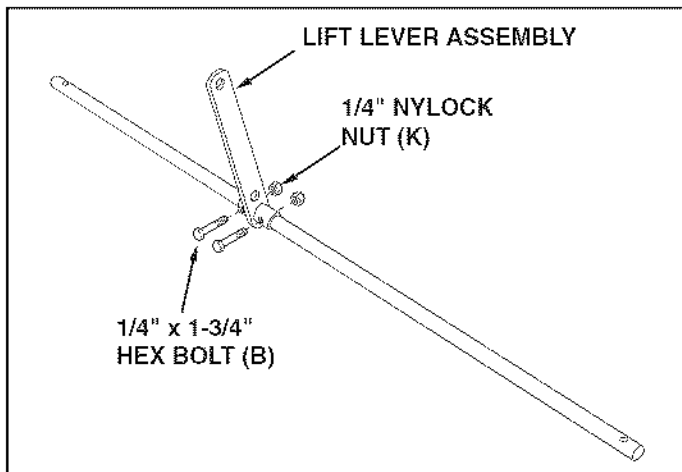

FIGURE 1
- (2) 3/4" wrenches or adjustable wrenches
- Attach the lift lever assembly to the two holes in the middle of the shaft using two 1/4" x 1-3/4" hex bolts (B) and a 1/4" nylock nuts (K). **Tighten.** See figure 1.